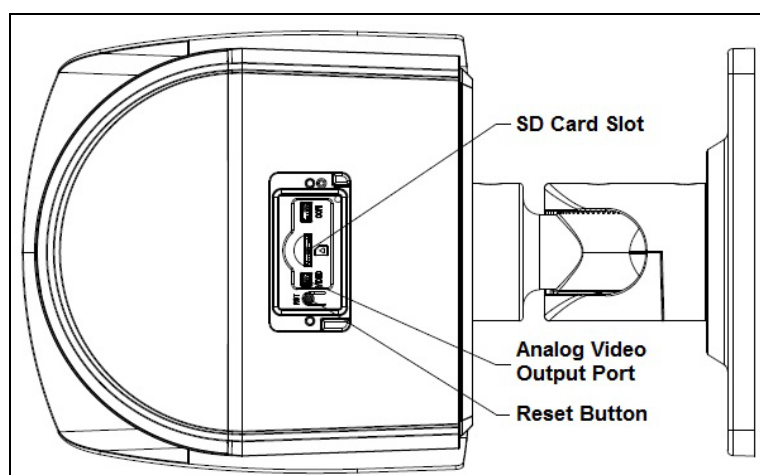

Figure 4-2
3. Insert an SD card into the SD Card Slot. Refer to Figure 4-2 for the location of the SD Card slot.